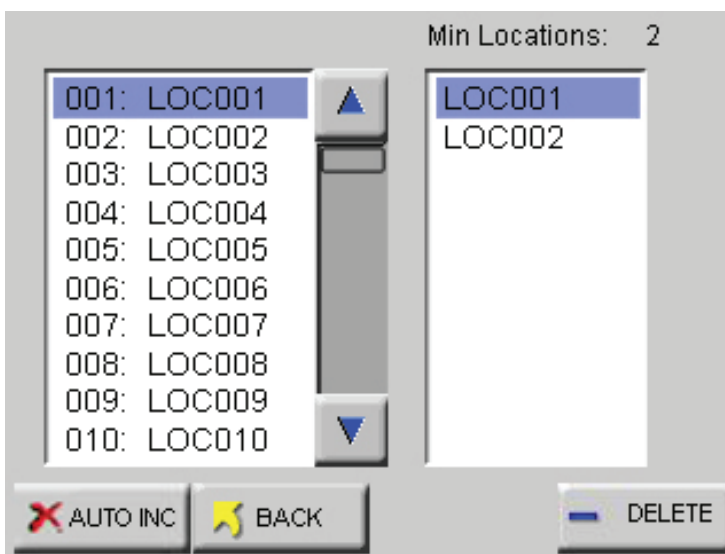

Figure 4-77 Reports Location Screen
- Select the LOC button to select, add or delete locations or enable Auto Inc as shown in Figure 4-77.